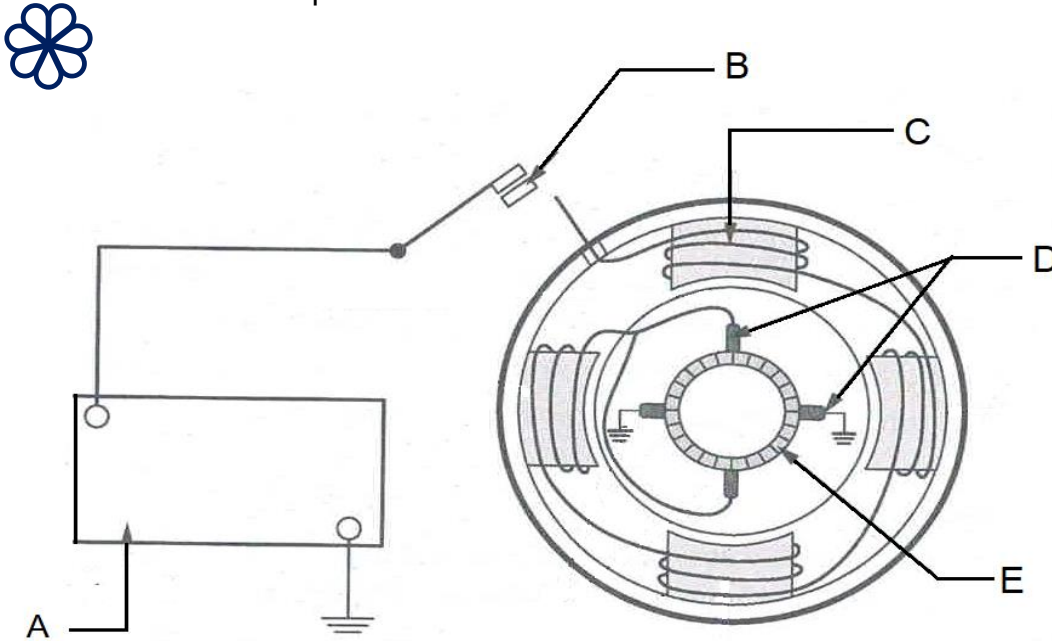

FIGURE 1
- 1.2 FIGURE 1 below, shows the wiring diagram of a starter motor. Identify and name the components labelled A to E in the answer book. (5)